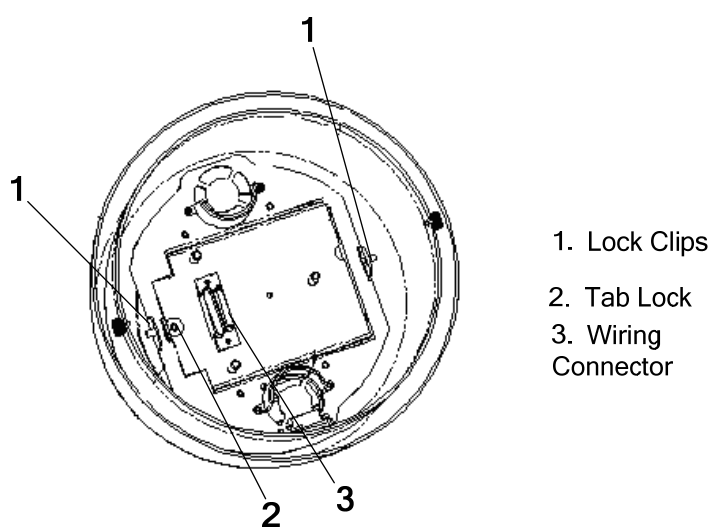
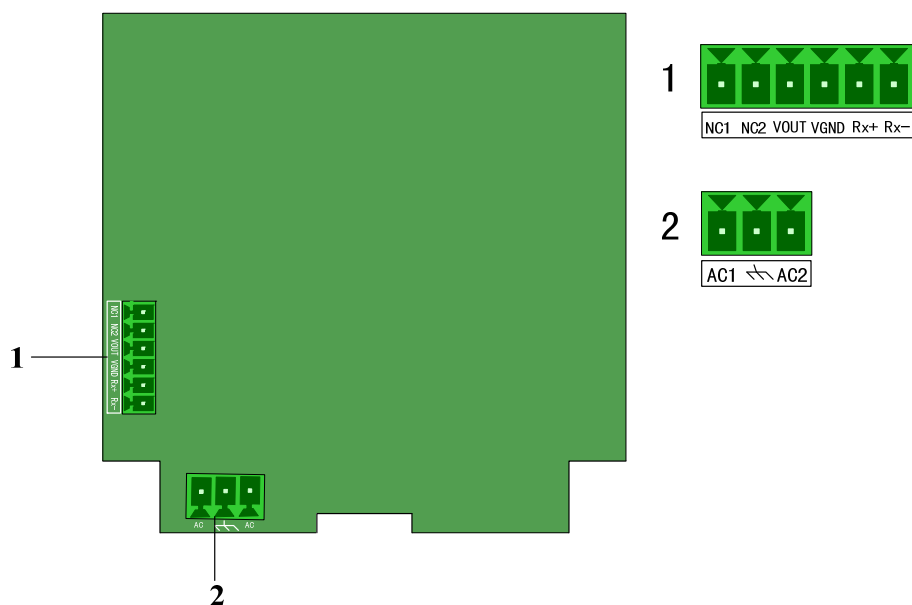
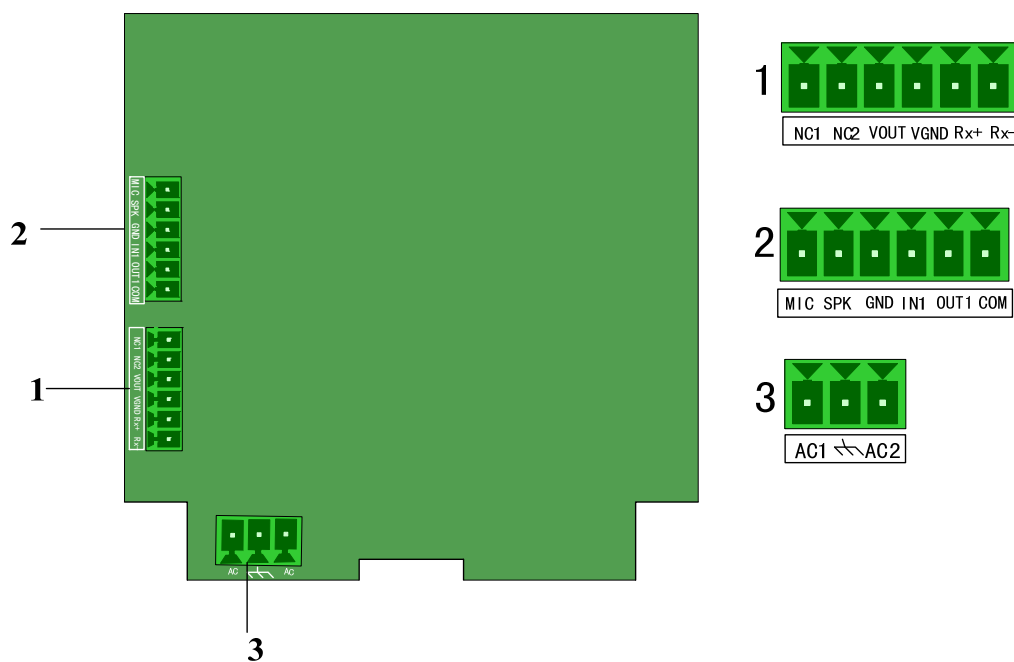

Figure 1.2.9 Back Box Interconnect Board
Figure 1.2.10 Back Box Circuit Board (Medium Speed Dome)
Figure 1.2.11 Back Box Circuit Board (Network Medium Speed Dome and Network High-definition Speed Dome)
2. Open the bubble, push the two clips on both sides of the dome drive towards the back box, and then take off the dome drive. Remove the expandable polyethylene and protective sticker from the dome drive. Refer to Figure 1.2.9.
Push the tab lock on the bottom interconnect board of back box and lift the hinged door to the circuit board, as shown in Figure 1.2.9. Unplug the video cable, power cord and other cables terminals to avoid cables twisting during the back box installation. Refer to Figure 1.2.10 (medium speed dome) and Figure 1.2.11 (network speed dome and network high-definition speed dome) for the wiring terminals on back box circuit board.